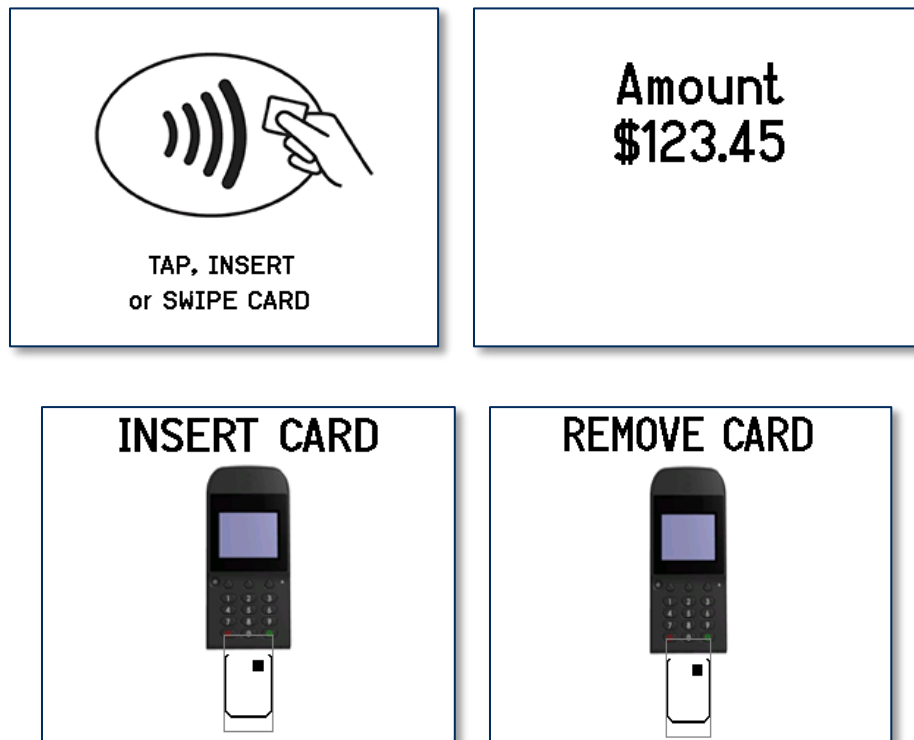

Figure 7-17 - Example Card Insertion Screens
- 1) Wait for the display to show an action prompt. If the host has directed the device to accept contactless payments for the transaction, the device toggles between the transaction amount and an action prompt (see **Figure 7-17** for examples).